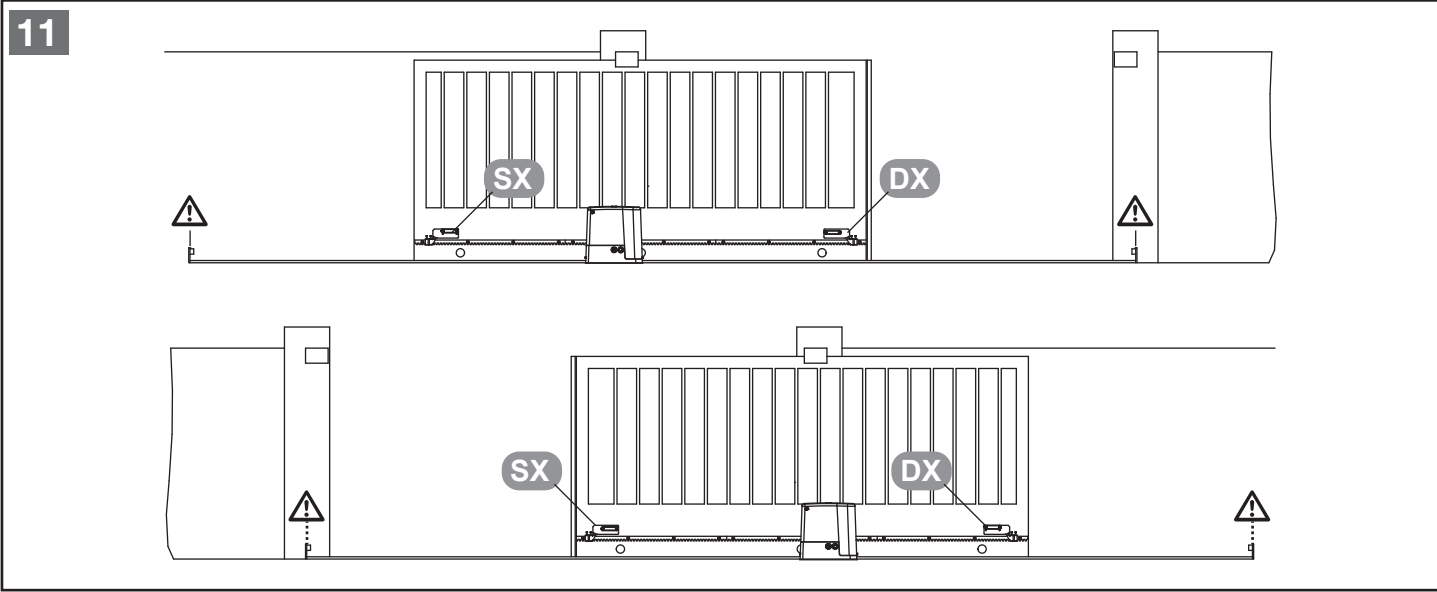

Figure 11 End positions
Firstly, fix the two magnet holders in the corresponding end positions on the gear rack using the screws supplied. Then install the magnets in the holders, ensuring that the red magnet (SX) is installed on the left and the blue magnet (DX) is installed on the right (see **“Figure 11 End positions”**). Determine the correct distance to the two reed contacts. To do this, unlock the opener and slide the gate into the gate open and gate closed end positions.